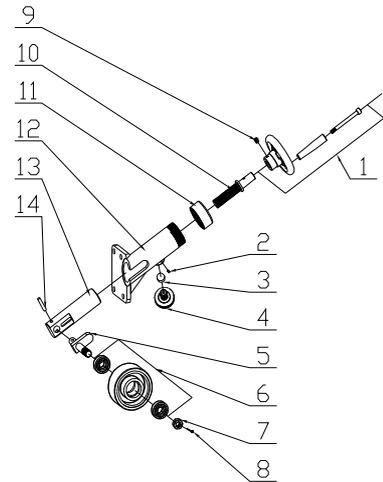

Fig.25
3. Jockey pulley parts form (Fig.25)